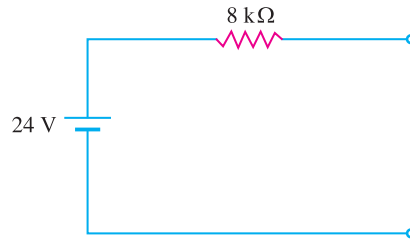

Fig. 1.49
3. Convert the voltage source in Fig. 1.49 into equivalent current source. **[3 mA in parallel with 8 kΩ]**